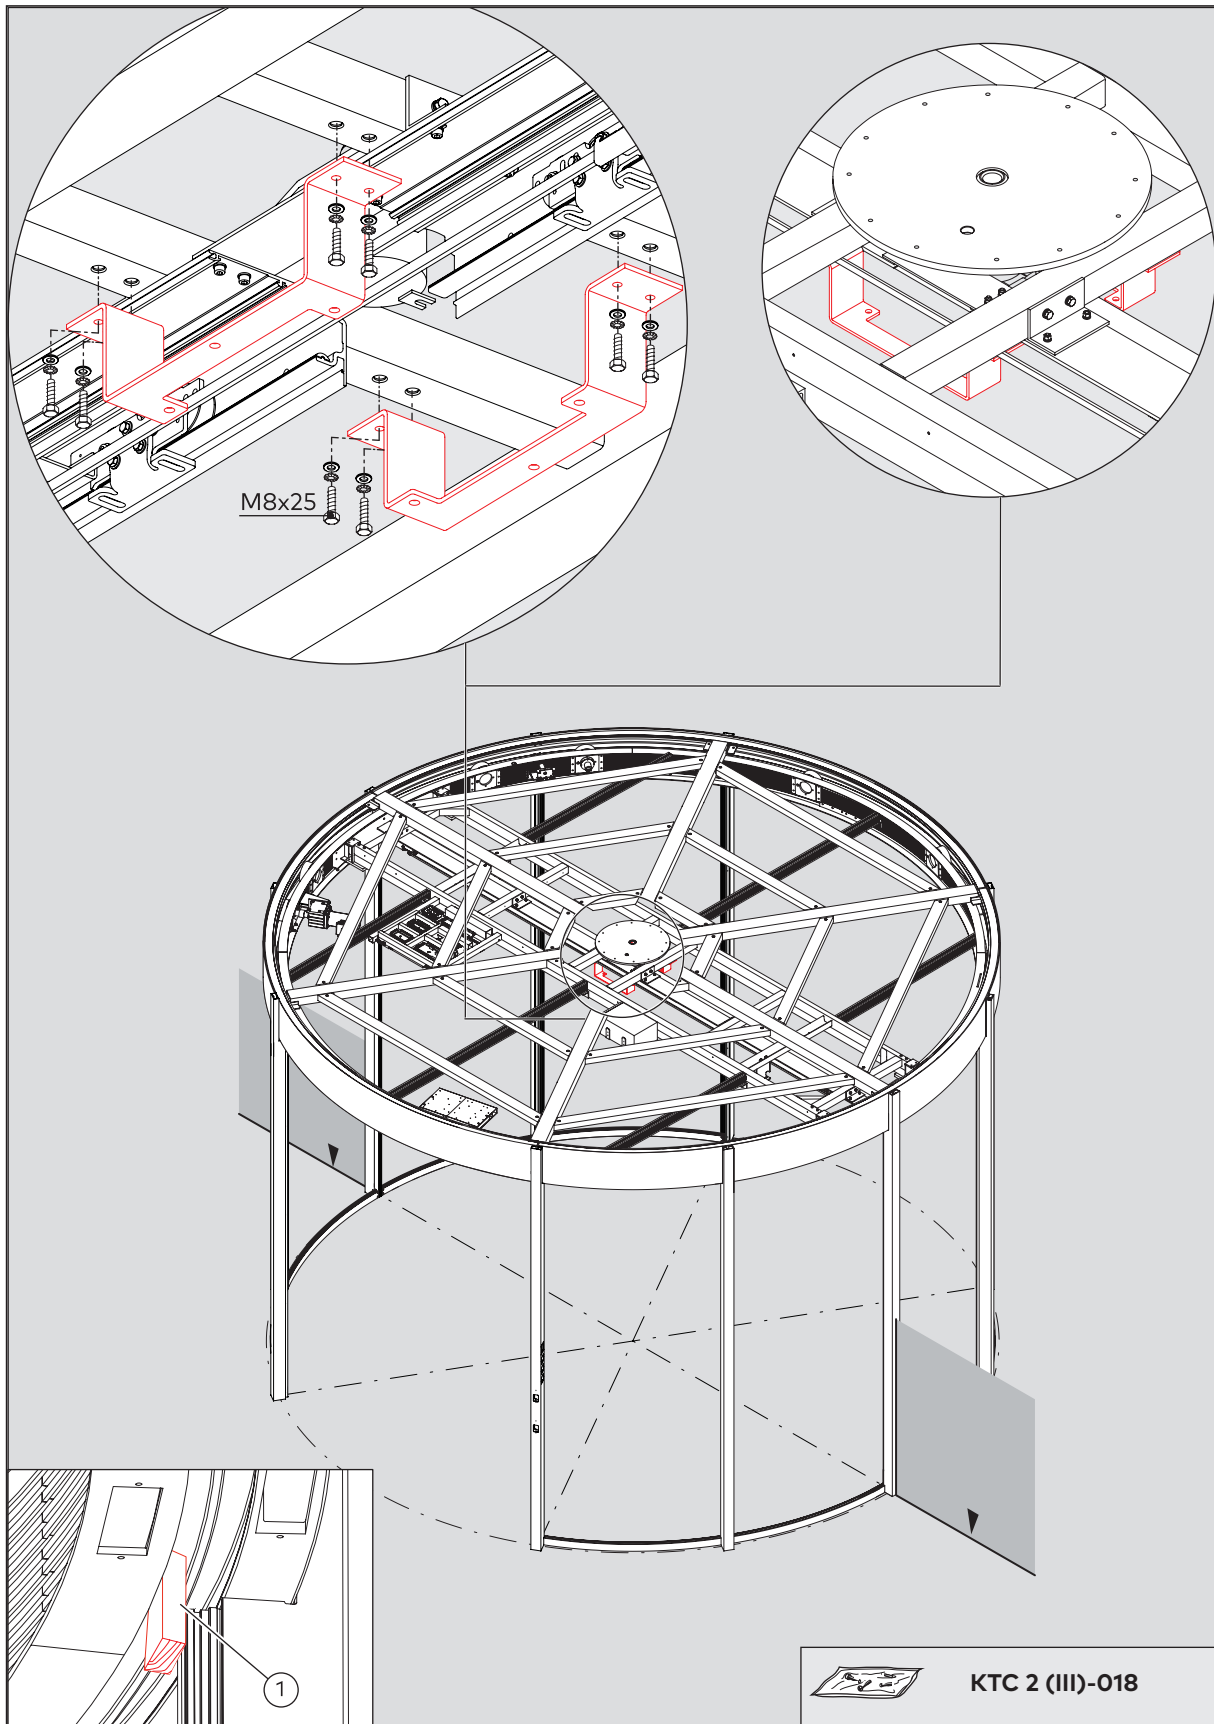

Fig. 53 Mounting the bracket for the ceiling beam
1. Remove the 12 wooden blocks (Fig. 53/1) from Chapter "5.5 Mounting the lower ceiling ring".